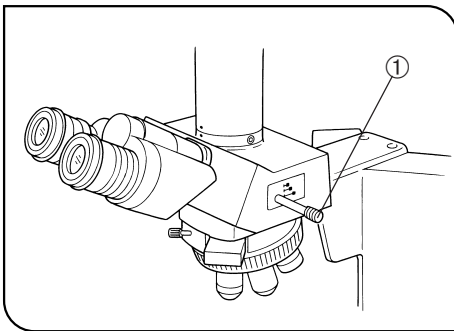

Fig. 29
**5 Selecting the Light Path of the Trinocular Tube (Fig. 29)**